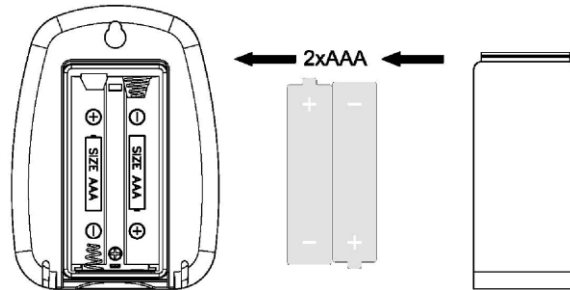

Figure 2
2. Insert two AAA batteries as shown in Figure 2.